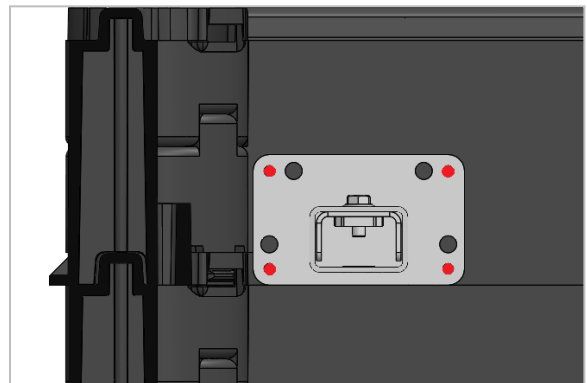

Figure 11
- Mark out the hole the centres highlighted in figure 11.